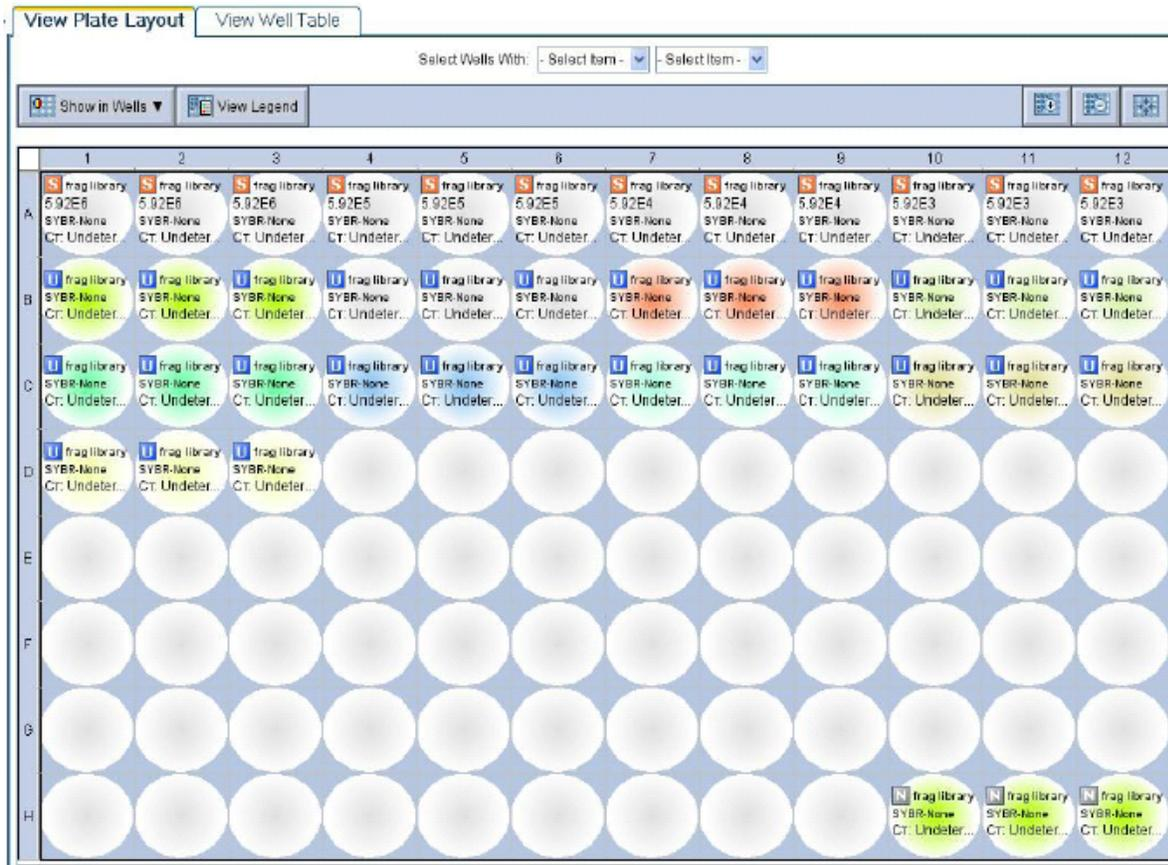

Figure 26 Sample 96-well template.
1. Make a template for the 96-well plate indicating the position for each library sample (see Figure 26).